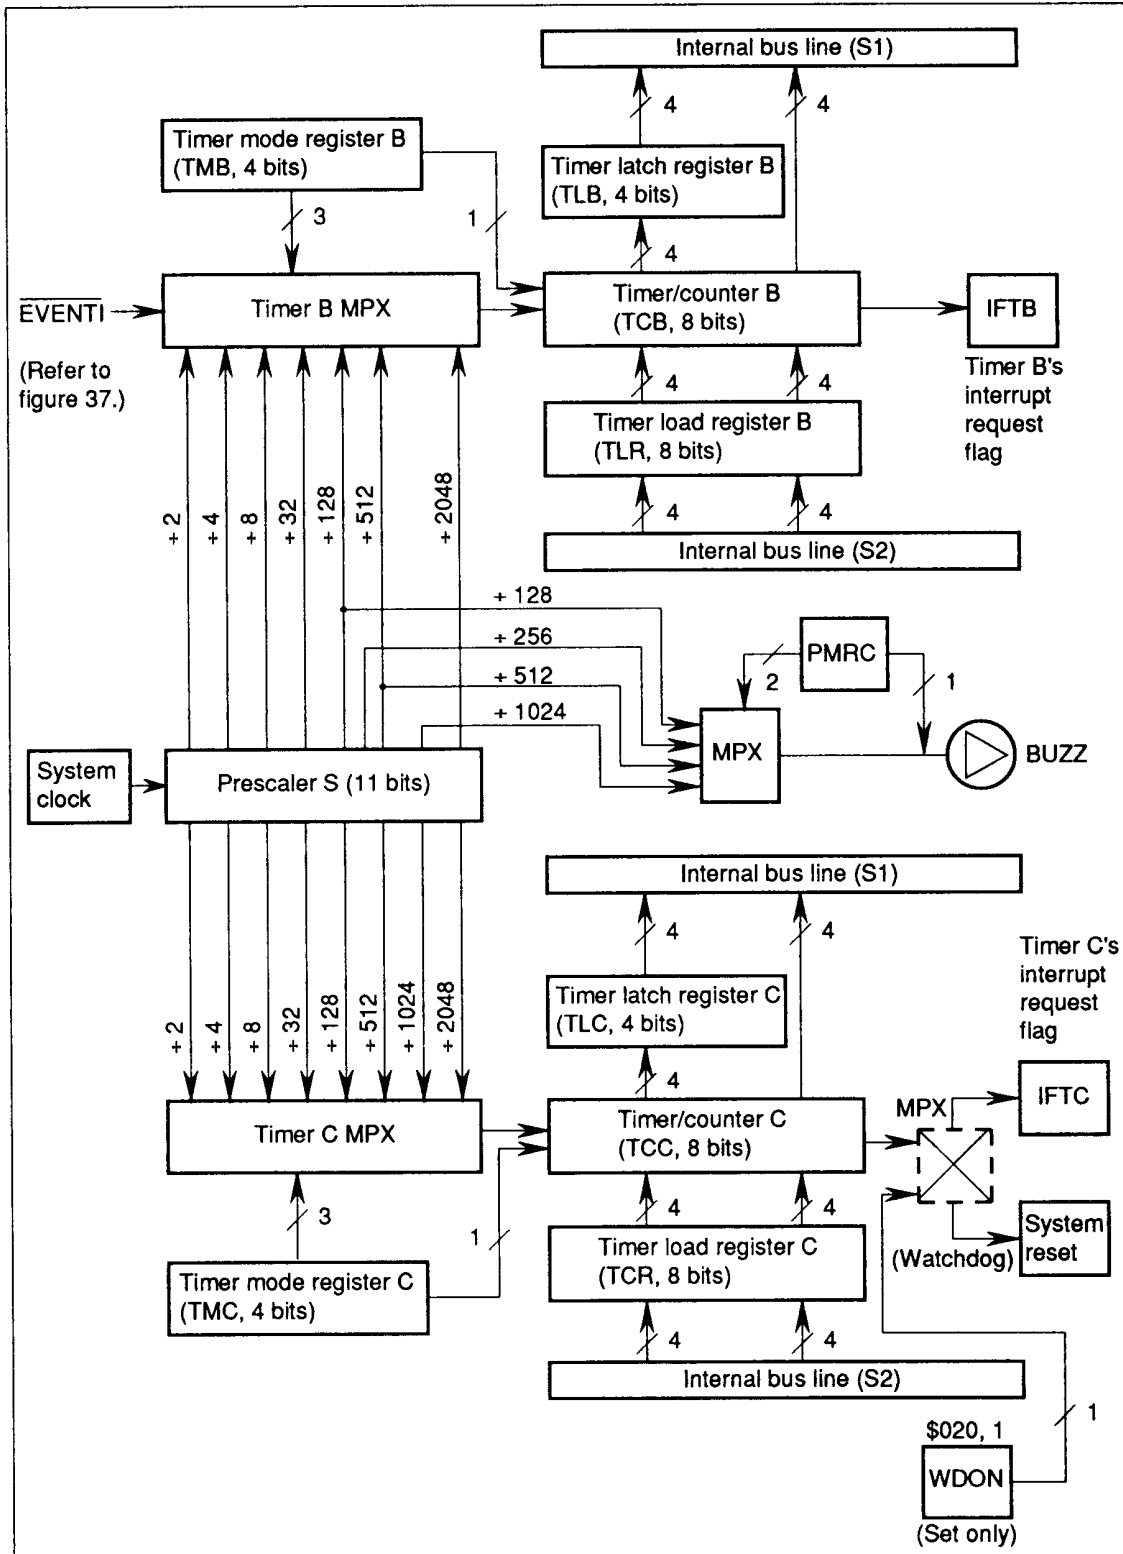

Figure 24 Block Diagram of Timers B and C
**Timer B (TCBL and TLRL: \$00A, TCBU and TLRU: \$00B):** Eight-bit write-only timer load register (TLRL and TLRU) and read-only timer/counter (TCBL and TCBU) located at the same addresses. The eight-bit configuration consists of lower and upper digits located at sequential addresses. A block diagram of timer B (and timer C) is shown in figure 24.